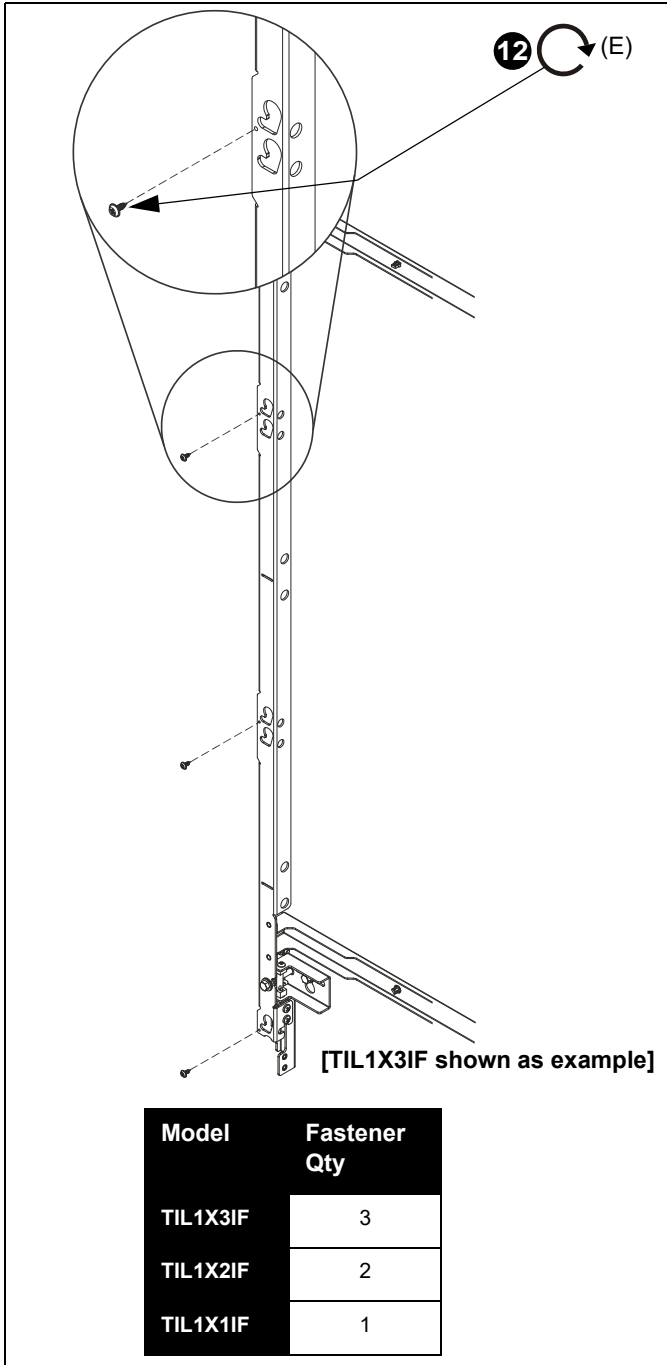

Figure 10
12. Install one 8-32 x 1/2" Phillips tapping screw (E) into left side of mount immediately below lower left mounting button hole for each LED screen space. (See Figure 10)